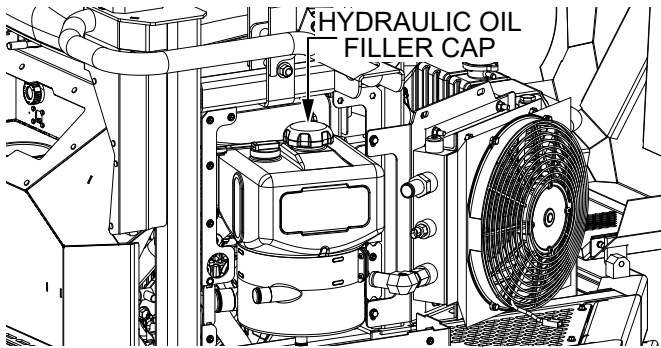

Figure 27. Hydraulic Oil Filler Cap
- Remove the hydraulic oil filler cap (Figure 27).